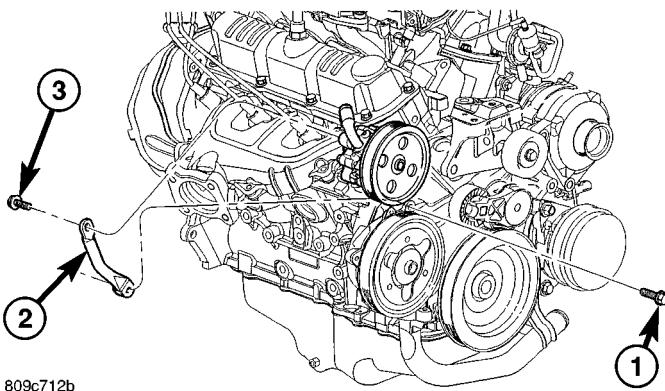

Fig. 138 Power Steering Pump Strut
(17) Remove the water pump for cover removal clearance. (Refer to 7 - COOLING/ENGINE/WATER PUMP - REMOVAL)
(18) Remove the bolt attaching the power steering pump support strut to the front cover (Fig. 138).